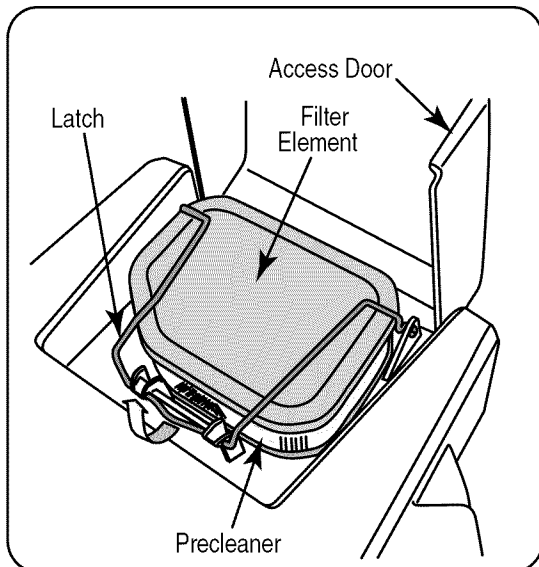

Figure 18
2. Unhook the latch and remove the precleaner from the air filter element. See Figure 18.
6. Pivot the latch over the filter assembly and press the latch downward to rehook. See Figure 18.